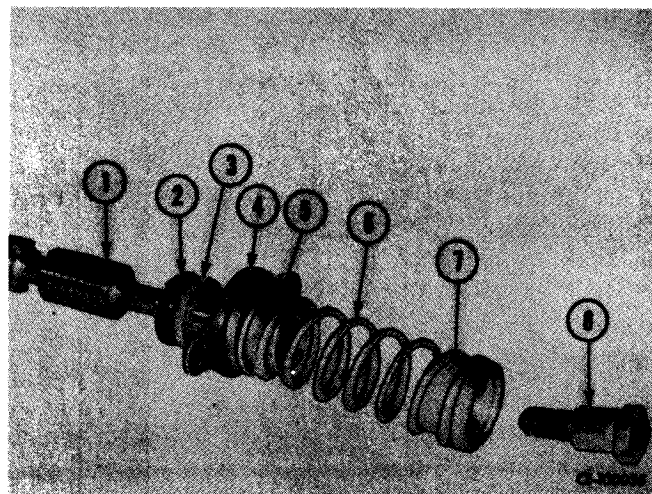

Figure 11-14
Disassemble valve spool assembly by removing special bolt (8, Fig. 11-14), spring seats (5, 7), spring (6), seal plate (4) wiper (3) and "O" ring (2) from spool (1).
Install wiper (3) and "O" ring (2) on end of spool (1). Position plate (4, Fig. 11-14), spring seat (5), spring (6), spring seat (7) and install and tighten special screw (8).